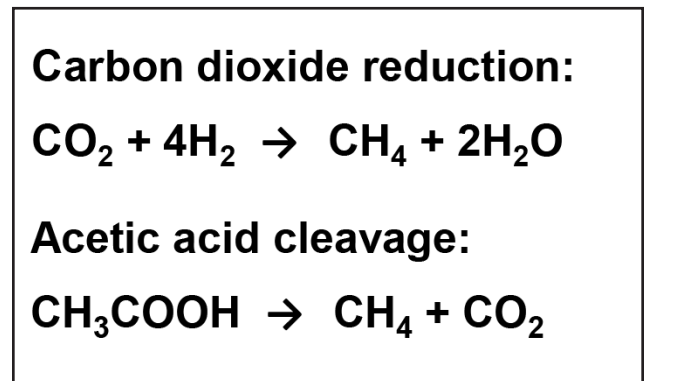

Figure 2. Major Pathways of Methane Formation.
**Methanogens** are methane forming microorganisms belonging to the Archaea domain -- very simple, single cell organisms similar to bacteria. Methanogens take the end products of fermentation – volatile fatty acids, hydrogen gas (H2), CO2, and water (H2O) – and use them to form methane. Methanogens fall into two camps depending on the pathway they use to produce methane (Figure 2). All methanogens reduce CO2 and H2 into CH4 and H2O. Those that use this pathway exclusively are called **hydrotropic methanogens**. Methanogens that cleave acetic acid to CH4 and CO2 are called **acetotrophic methanogens**.